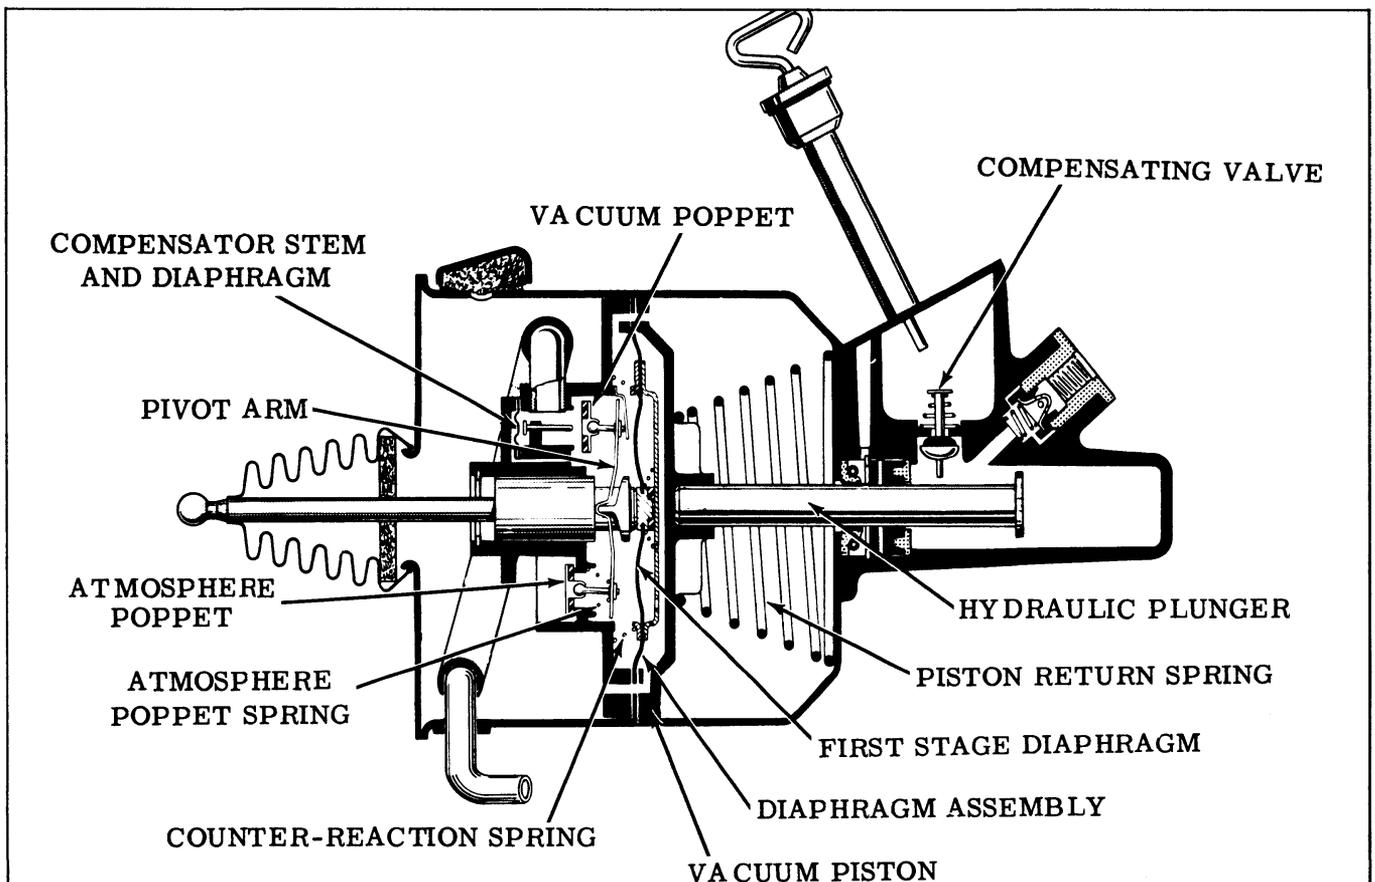

Fig. 7-39 Applying Position
**Applying Position (Fig. 7-39)**